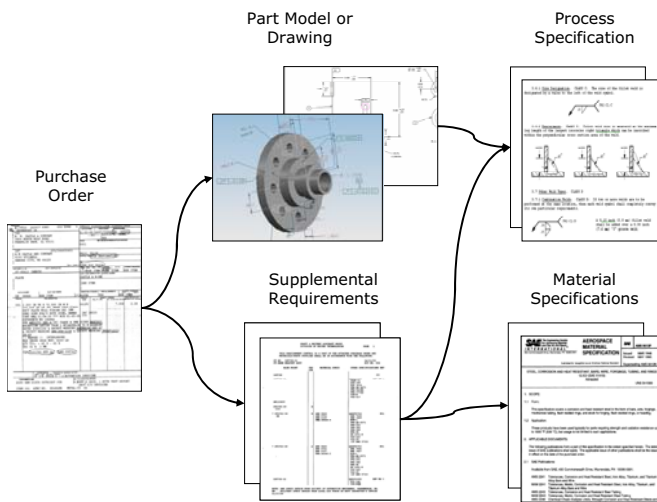

Figure 2 – Typical Components of the Tech Data Package
As shown in Figure 2, the TDP is typically called out by a part number on the purchase order (PO). The PO will directly or indirectly identify the pertinent CAD model and/or drawing. The model or drawing will then reference numerous specifications that define expected material properties and manufacturing processes. In addition, the PO, model, or drawing will often reference supplemental documents that define additional detailed requirements for the specific part.